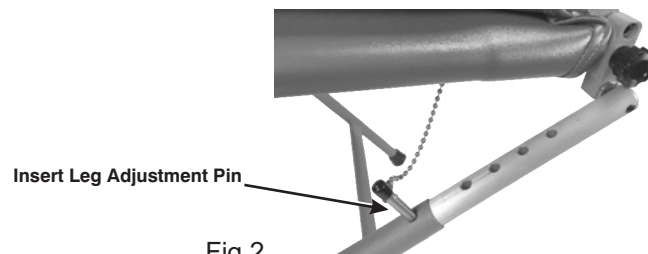

Fig.2
3. Standing in front of the chair, put your toe on one of the front chair legs and lift up on the backrest and front seat portion. Raise chair seat to desired height. Lock in place by inserting leg adjustment pins through chair leg tube and into adjustment link on the right and left side of the chair. (Fig. 2)